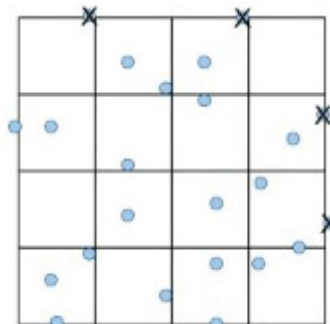

Figure 22 Cell counting inclusion method of bottom left methods
- In each box, we can use either top left method (include cells that overlap in top or left line) or bottom right method (include cells that overlap in bottom or right line) or others two overlapping lines (top right or bottom left). Illustration of left bottom method can be seen in Figure 22.